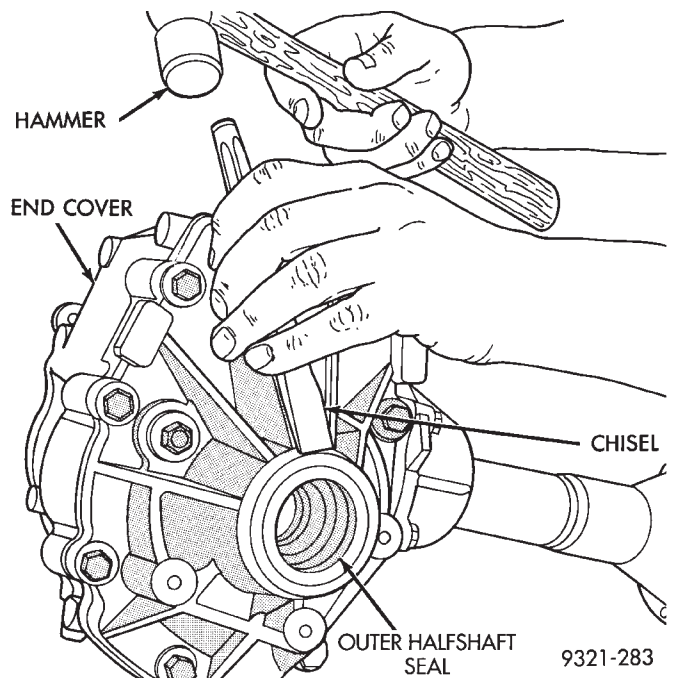

**Fig. 1 Seal Removal**
- (1) Lift vehicle on hoist.
- (2) Remove right front half shaft from vehicle.
- (3) Remove seal with a chisel and hammer (Fig. 1).